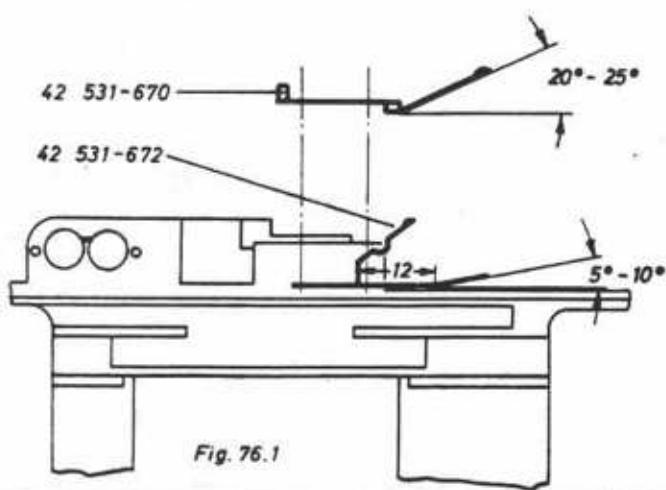

Fig. 76.1
4.3 Using tweezers, bend the contact spring 42 531-672 in the foremost half of the lower contact arm upwards at an angle of about 5° - 10° (see Fig. 76.1).
4.4 Using flat pliers, bend the lower bend of the z-shaped angle of the contact spring upwards and, extending it, bend it again in such a way that the lower edge of the contact spring rests fully on the plate washer 42 531-673 (main body). The contact arm, from the direction of the angled portion, must be bent upwards at an angle of about 20° - 25° (see Fig. 76.1).